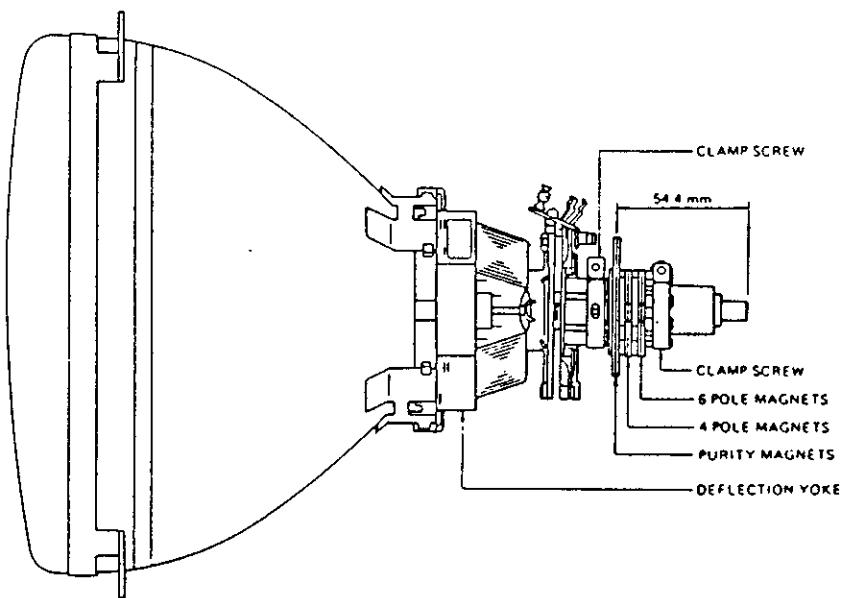

Fig. 5 Picture Tube Neck Component Location
1. Check for correct location of all neck components. (Refer to Fig. 5)
(Refer to Fig. 5 & 6)
**IMPORTANT:** Before proceeding, check location of the convergence magnet assembly on the neck of the CRT as shown in Figure 5. The rear edge of this assembly must be positioned 3/4 inch from the tip of the CRT base. If not properly positioned, convergence adjustment may be difficult, if not impossible.